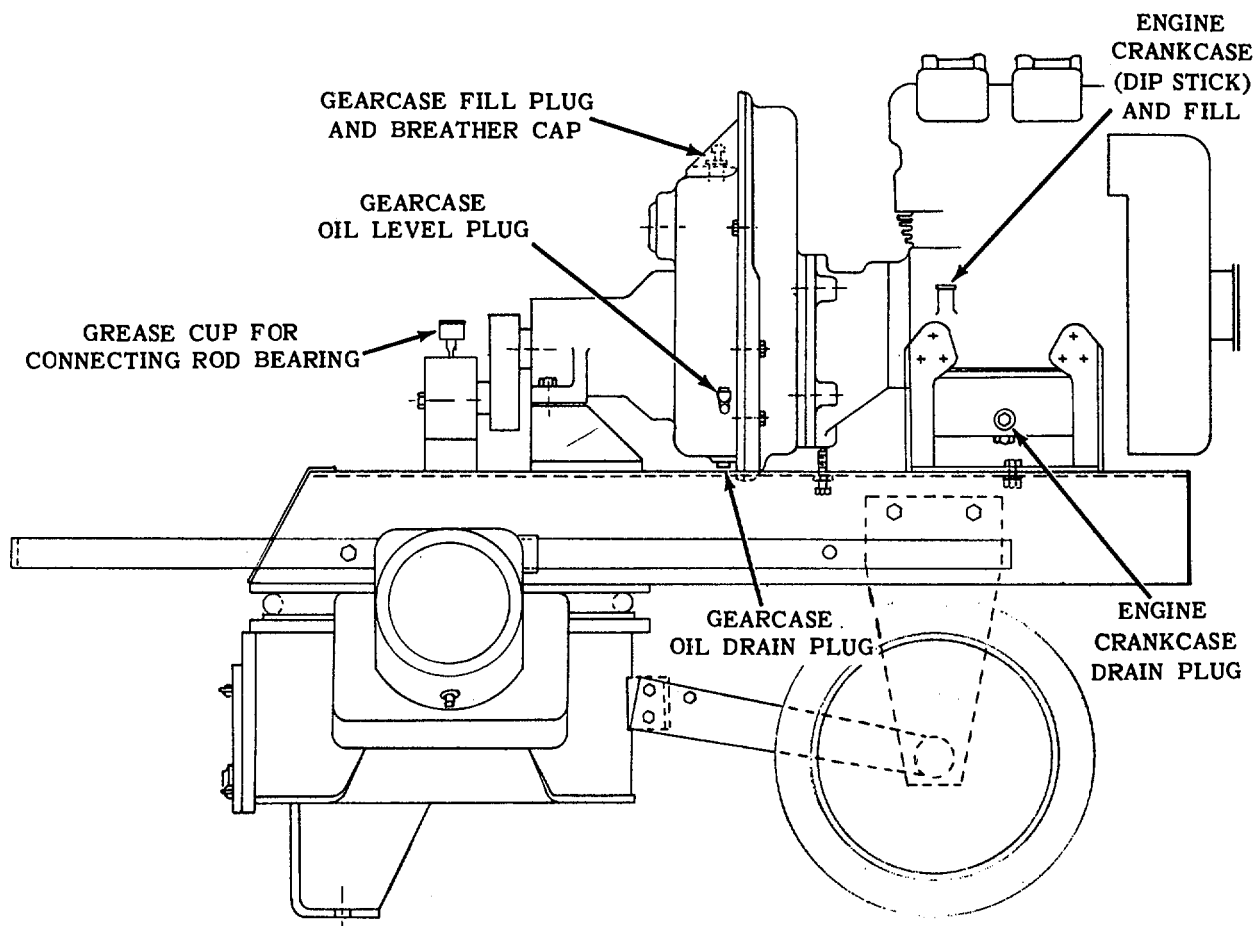

FIGURE 9
6. Lubrication before use - The engine crankcase, pump gearcase and connecting rod bearing grease cup are filled to level points at the factory. However, before operation these points should be checked for oil levels. Refer to lubrication chart, Page 7, Fig. 9 for data.
15. Daily maintenance, reference Fig. 9.
16. Semi-Yearly, reference Fig. 9.